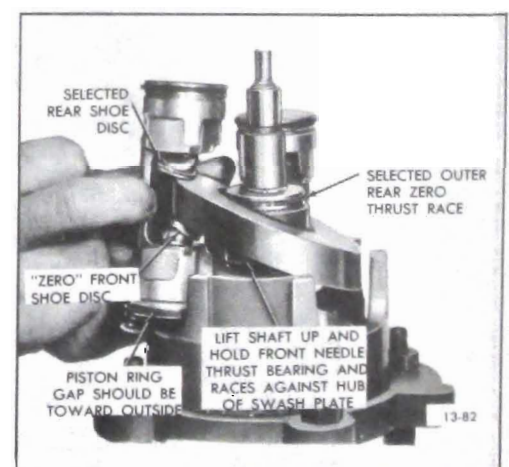

Figure 13-109 Installing Piston Assembly in Front Cylinder Half
3. Rotate shaft and swash plate assembly until high point of swash plate is over No. "1" cylinder bore. Position No. "1" piston onto swash plate (see Figure 13-109) and lower the piston and swash plate so that the front end (notched end) of the piston enters the cylinder bore.